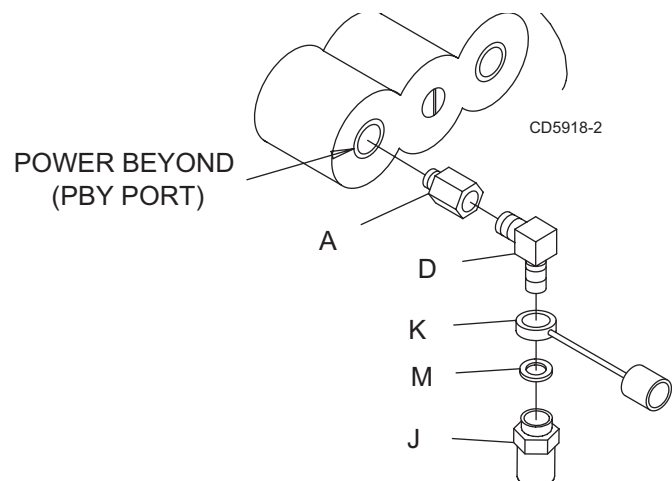

Figure 18 Power Beyond Fitting Installation
3. Install fittings, quick couplers, dust cap and colored bands to the hydraulic manifold POWER BEYOND (PBY) port as shown in Figure 18.